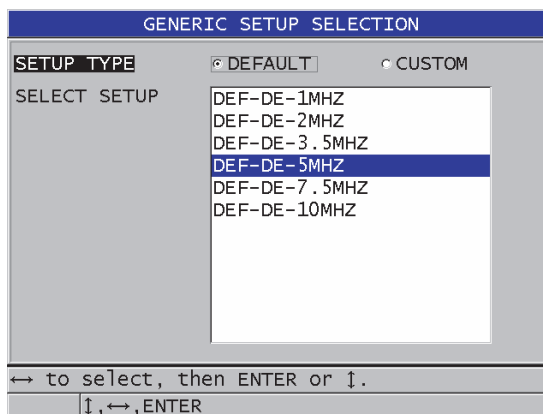

Figure 12-1 The GENERIC SETUP SELECTION screen
2. In the **GENERIC SETUP SELECTION** screen that appears (see Figure 12-1 on page 233):